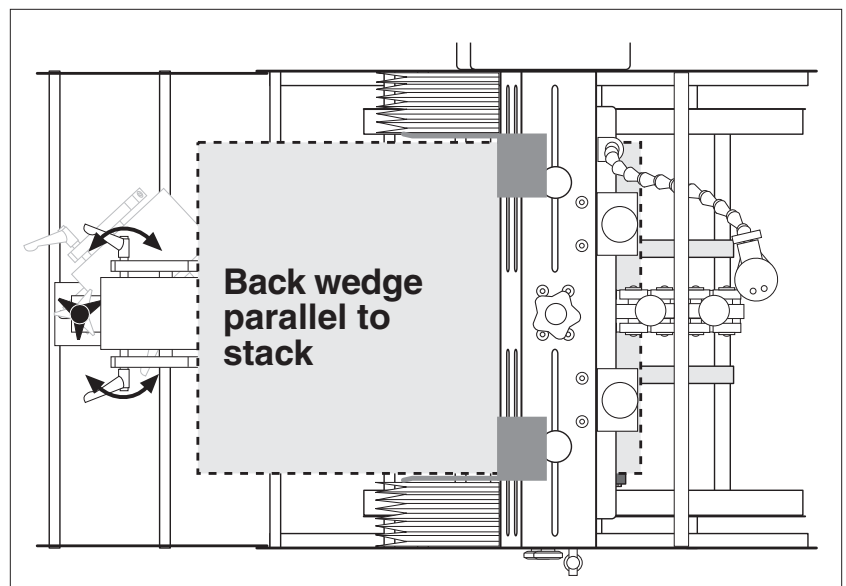

Figure 2-12. Adjusting Back Wedge for Parallel
5. Make sure the edge of the back wedge assembly is parallel with the edge of the product stack (Figure 2-12). Adjust as required and tighten wing-nut.